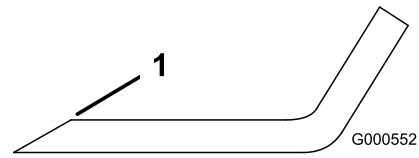

Figure 90
1. Use a file to sharpen the cutting edge at both ends of the blade (Figure 90).
Note: If the blade is not balanced, file some metal off the end of the sail area only (Figure 90).